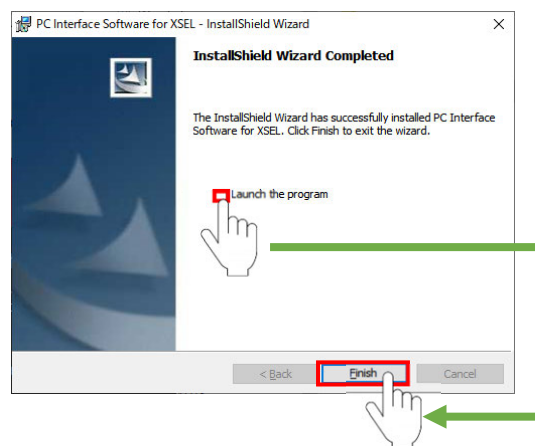

Fig. 1.13 Installation Complete
- 10) When installation is complete, the window in Fig. 1.13 will be displayed. Uncheck "Launch the program" and click **Finish**.